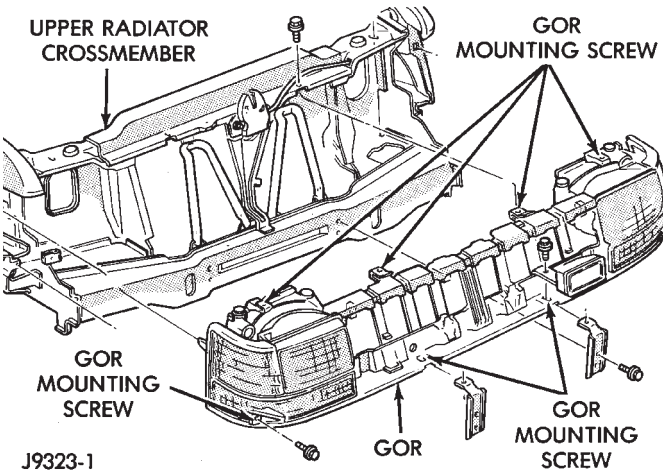

Fig. 8 Grille Opening Reinforcement
- (20) Remove 8 bolts that attach grille opening reinforcement (GOR) to the upper and lower crossmember (Fig. 8).